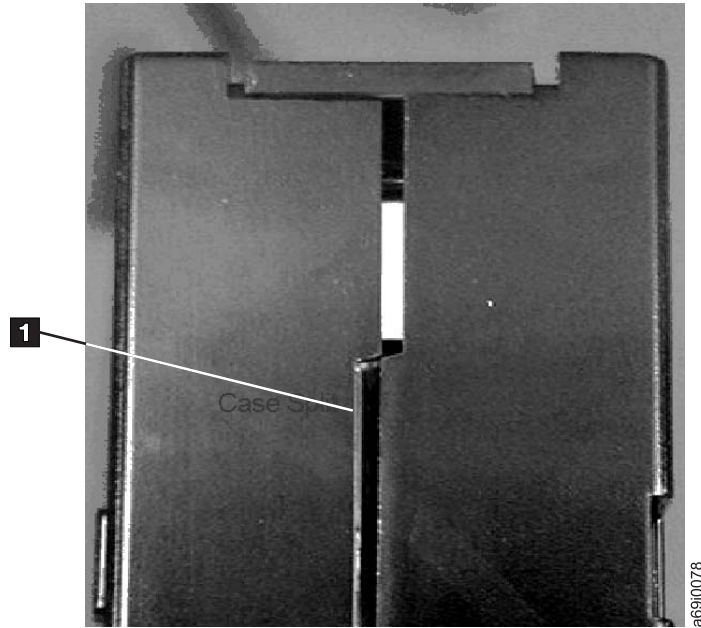
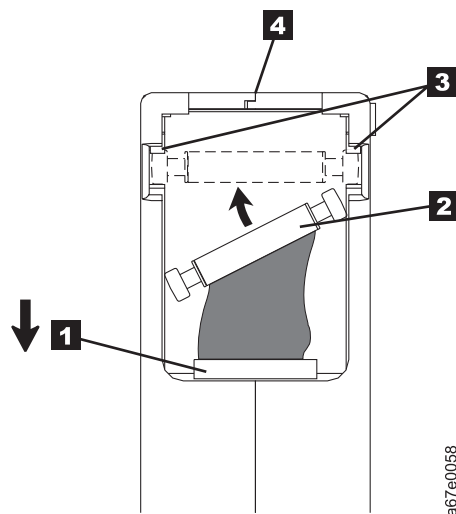

Figure 6-7. Checking for gaps in the seams of a cartridge
Figure 6-9. Placing the dislodged leader pin into the correct position. The cartridge door is open to show the leader pin.
- Inspect the rear of the cartridge (the part that loads first into the tape load compartment) and ensure that there are no gaps in the seam of the cartridge case (see **1** in Figure 6-7 and **4** in Figure 6-9 on page 6-12). If there are gaps in the seam (see Figure 6-7), the leader pin may be dislodged. Go to “Repositioning or Reattaching a Leader Pin” on page 6-11.
Example: Split Cartridge Case (see Figure 6-7)
1. Slide open the cartridge door (**1** in Figure 6-9) and locate the leader pin (**2** (you may need to shake the cartridge gently to roll the pin toward the door).